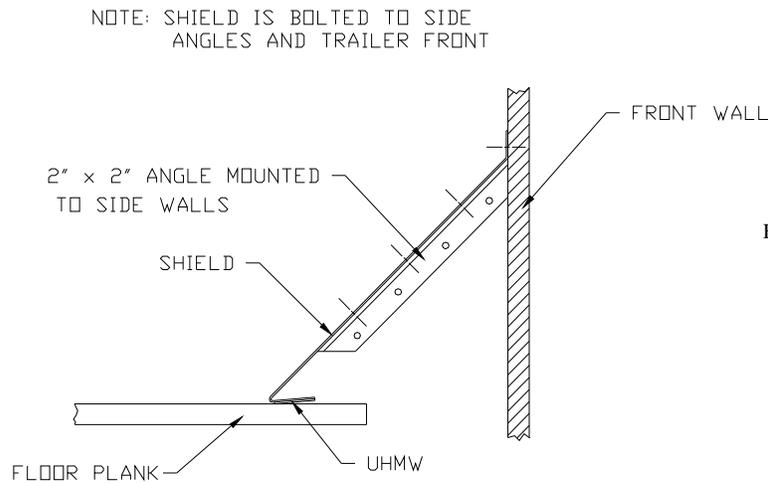

Figure 23
1. Determine dimensions (Figure 23).